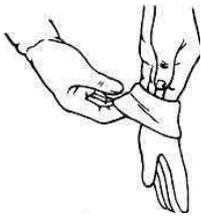

Figure 1
Before handling the Reflecting Screen (H), put on the supplied pair of White Gloves (Included in the Laser TV package, please see Laser TV cleaning kit) to avoid leaving fingerprint marks, dust or oil from your hands on the surface of the material (Figure 1). The Reflecting Screen (H) is very delicate and should be handled with extreme care. Do not allow the material to fold or bend. Failure to follow instructions will result in permanent damage to the screen material, which is not covered by warranty.
1. Remove the **Reflecting Screen (H)** from the packaging tube and set it gently on a clean surface.